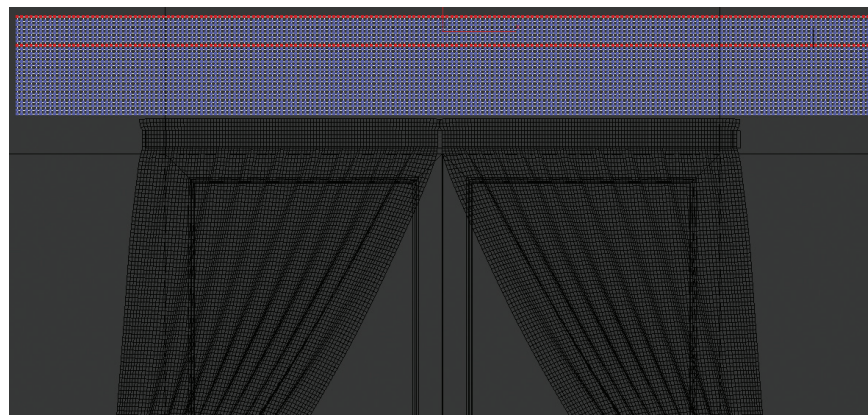

Figure 8: Double row selected verts
- From the top we want to count roughly 7 to 10 rows down and then, whilst holding down the Control key (which we need to keep down for the rest of this selection operation), again select the first two vertices in a row and then click the Loop button. You should end up with a selection that looks something like Figure 8.